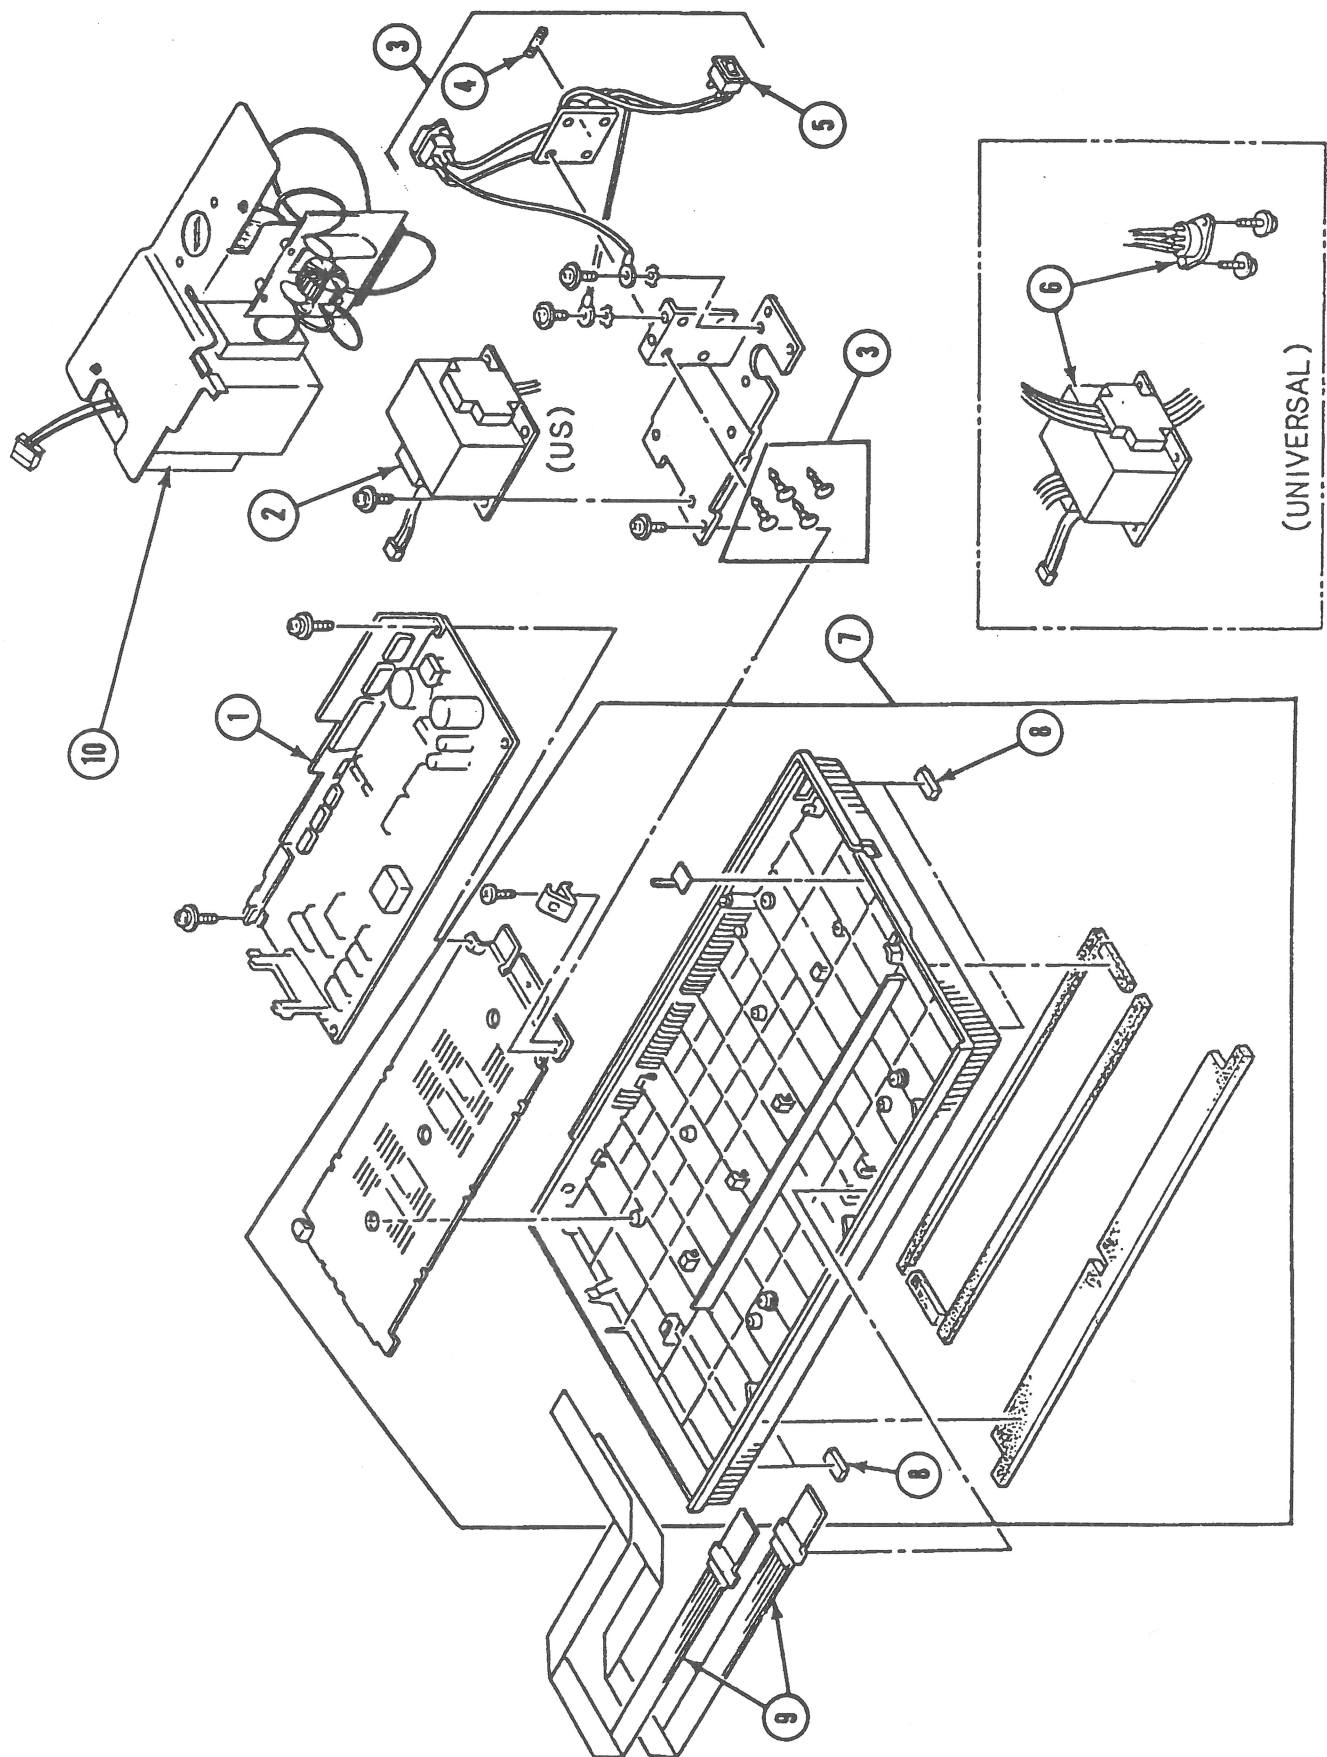

FIGURE 9
□ POWER SUPPLY AND MAIN PCB ASSEMBLY (Figure 9)